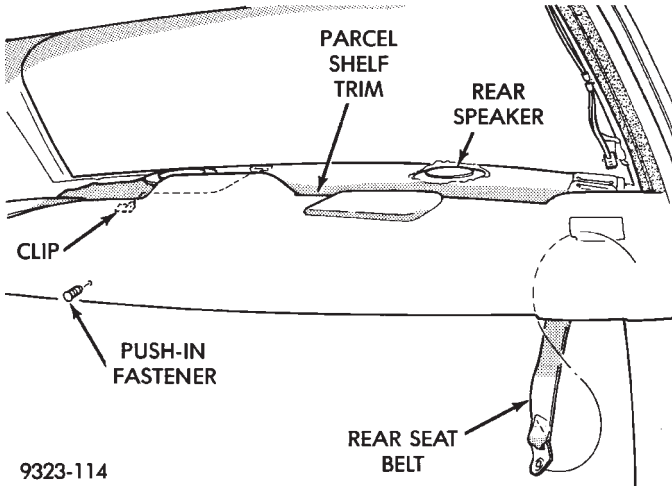

Fig. 61 Parcel Shelf Trim Panel
- (1) Remove lower quarter trim panels.
- (2) Disengage CHMSL wire connector.
- (3) Pull parcel shelf trim away from rear glass to disengage clips (Fig. 61).